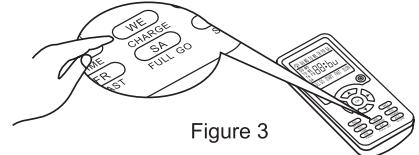

Figure 3
4. When you want to charge the machine, press the CHARGE key on the Remote Control. The machine will find the Docking Station in the valid scope and charge. (See Figure 3)